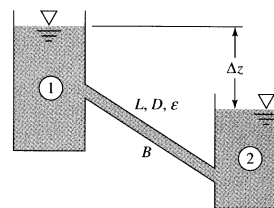

Fig. P6.55
6.58 In Fig. P6.55 assume that the pipe is cast iron with $L = 550 \text{ m}$, $d = 7 \text{ cm}$, and $\Delta z = 100 \text{ m}$. If an 80 percent efficient pump is placed at point B , what input power is required to deliver $160 \text{ m}^3/\text{h}$ of water upward from reservoir 2 to 1?